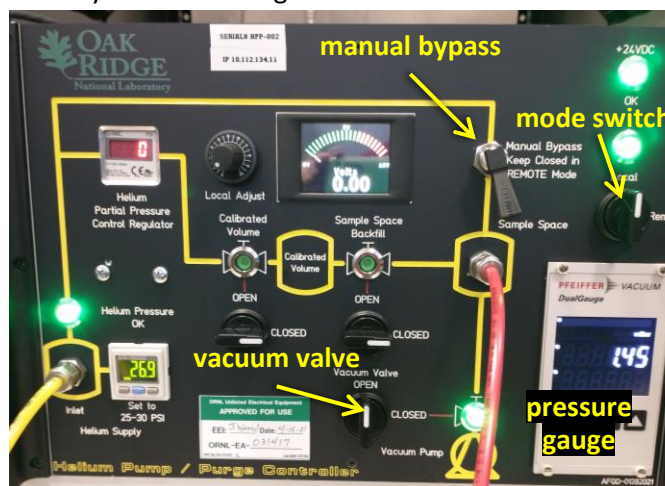

Figure 3. Helium Pump / Purge Controller
- e. On the Helium Pump / Purge Controller (Figure 3), change the mode switch from Remote to Local.
- g. Pull open the manual bypass valve (Figure 3).